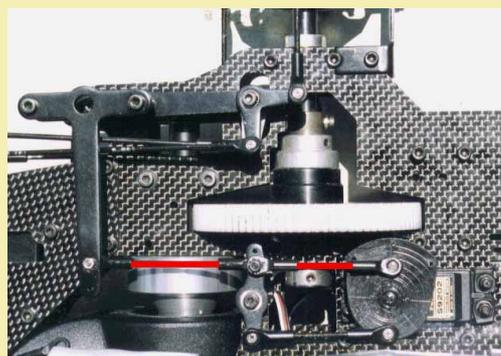

Fig. 2: Straightened linkage (MS46) between servo and Pitch lever by mounting the two ball links in the same hole on opposite sides of the push-pull arm.
- The linkage between the servo and the pitch lever (TSK 512-5540, N6 CP-Lever set) should be adjusted to achieve a higher degree of linearity. By mounting the ball link from the servo and the ball link to the lever in the same hole of the push-pull arm using a CP-M2-14mm screw and mounting the ball link on the pitch lever in the upper hole the linkage is absolutely horizontal (Fig. 2, previous page) in the middle position of the pitch servo and